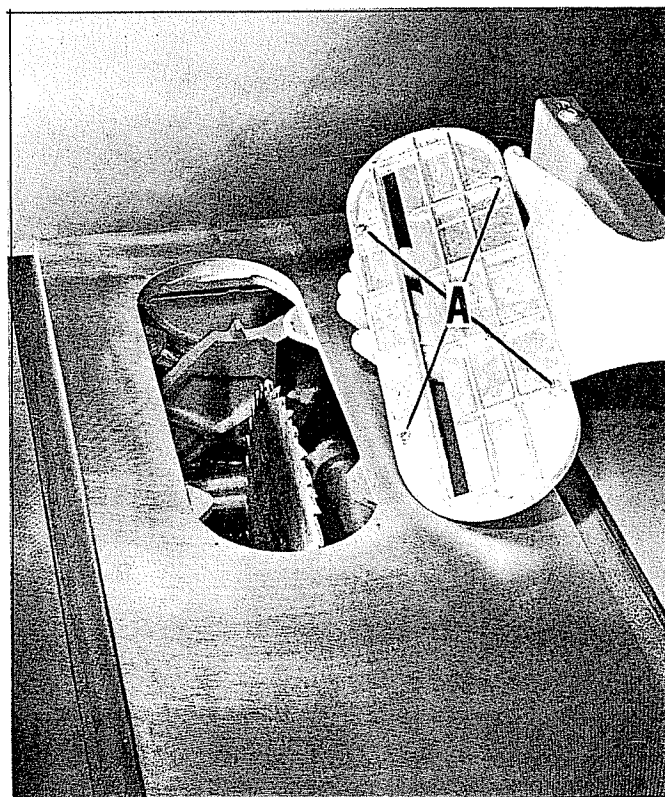

Fig. 16.
The table insert should always be flush with the table top. To adjust the table insert, turn the adjusting screws (A) Fig. 16 in or out.